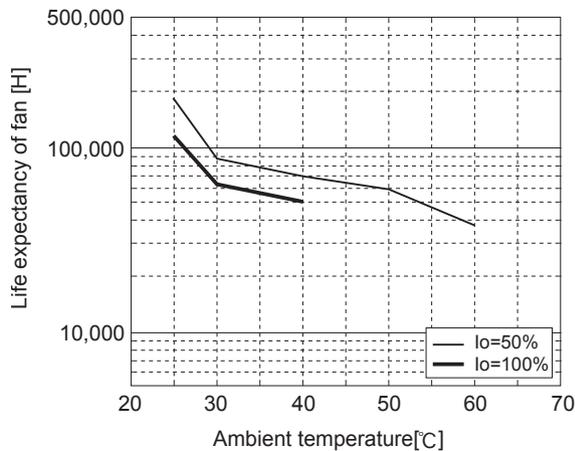

Fig.3.4 Life expectancy of fan of FETA7000T and FETA7000ST
■ Life expectancy (R(t)=90%) of fan depends on use conditions as shown in Fig.3.4.
■ Life expectancy (R(t)=90%) of fan depends on use conditions as shown in Fig 3.4.